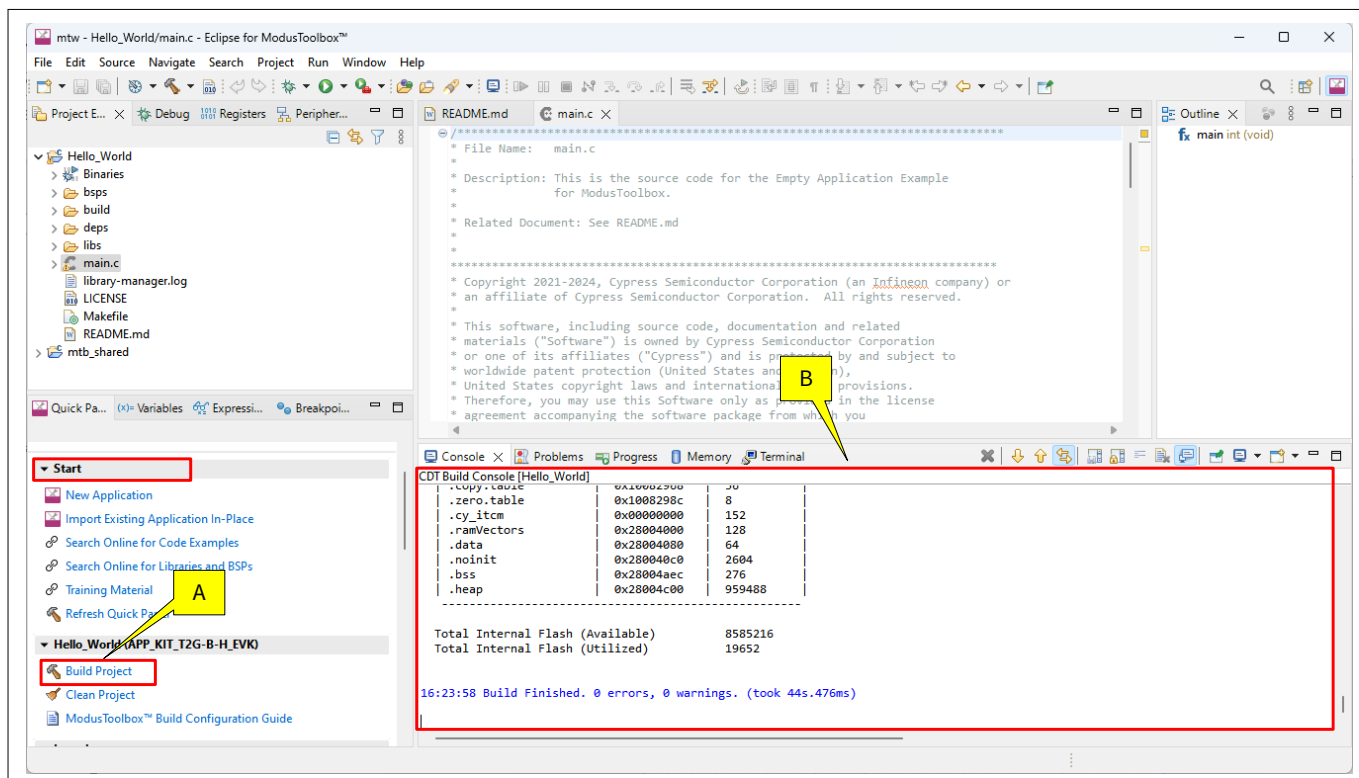

Figure 16 Build the application
3. The **Console** view lists the results of the build operation (see Figure 16)